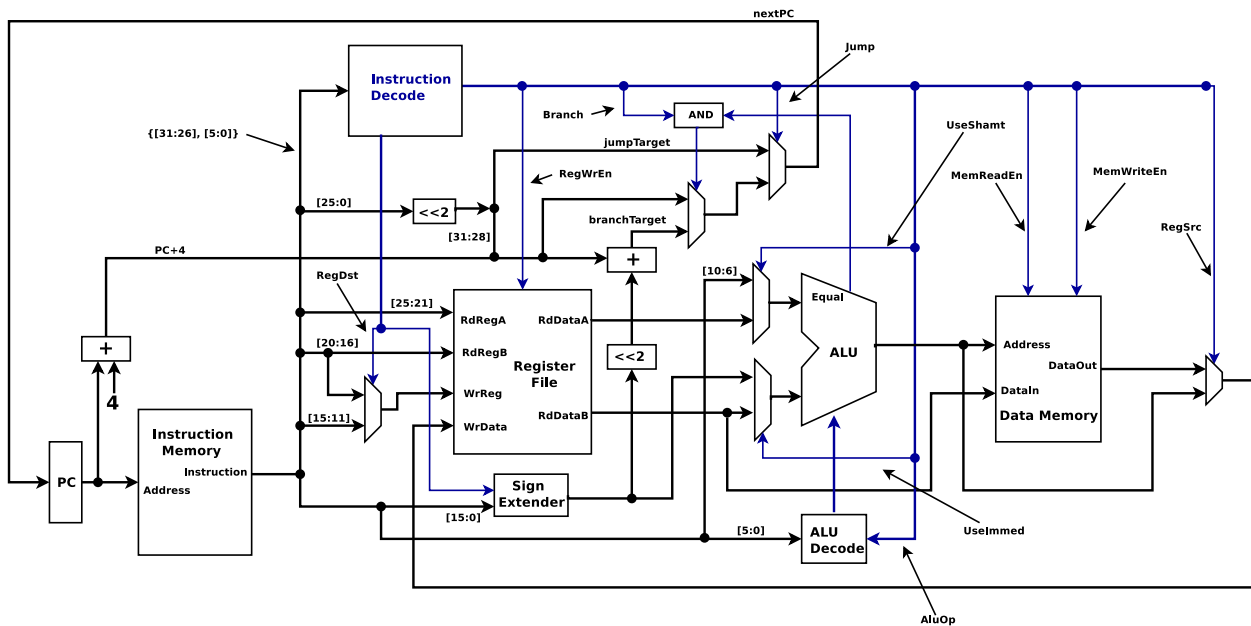

Figure 1: Single-cycle MIPS Block Diagram
The decode logic within our processor takes as input the *Opcode* and *Function* fields from the MIPS instruction and outputs a number of control signals that orchestrate the flow of data through the datapath. To simplify the decode logic and remain consistent with lecture material, we will create two components for decoding, namely the **Instruction Decode Unit** and the **ALU Decode Unit**. Figure 1 depicts the single cycle microarchitecture with both decode logic components and their associated output control signals. For now, we will support the following instructions:
1. Describe the ALU decode unit in VHDL. The **ALU Decode Unit** allows further decoding of an R-type instruction with the *Function* field from the MIPS instruction. The process of decoding an instruction into a control code that the ALU can understand (Table 1) is split up into two blocks. The first block is contained within the instruction decode unit and will be addressed shortly. The second block is the ALU decode unit shown in Figure 1, which takes in an ALU op code from the main decode unit and the function field from the instruction. The ALU control logic should asynchronously function as follows: